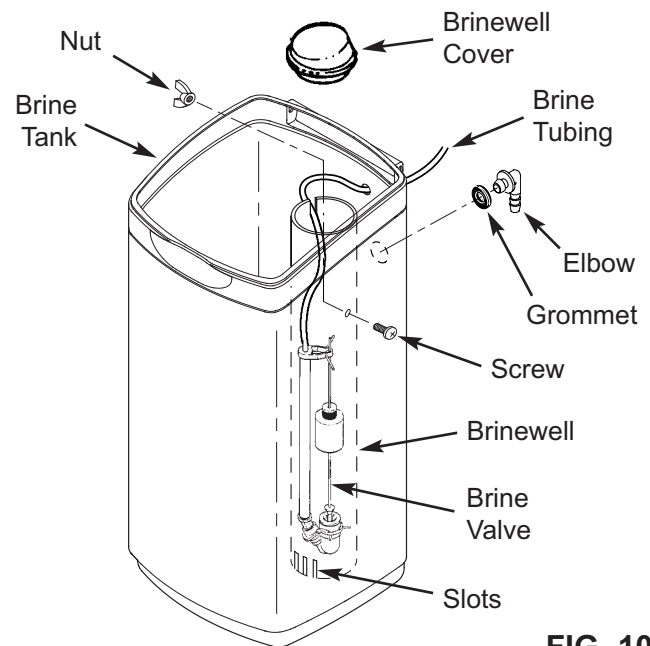

FIG. 10
- a. Place the brinewell into position in the brine tank, with the slots at the bottom, as shown in Figure 10. Align the mounting hole in the brinewell with the corresponding hole in the tank wall. Then use the screw and nut from the parts bag to fasten the brinewell in place.
- b. Lower the brine valve into the brinewell. Push the tubing into the brinewell top slot (Fig. 10) and route it out of the brine tank through the smaller hole in the rear wall of the brine tank.